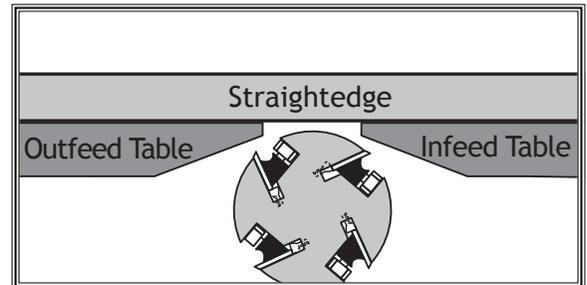

Figure 45. Infeed and outfeed tables set evenly (knife-style cutterhead shown).
7. Place straightedge halfway across infeed and outfeed tables, and adjust infeed table even with outfeed table, as shown in **Figure 45**.